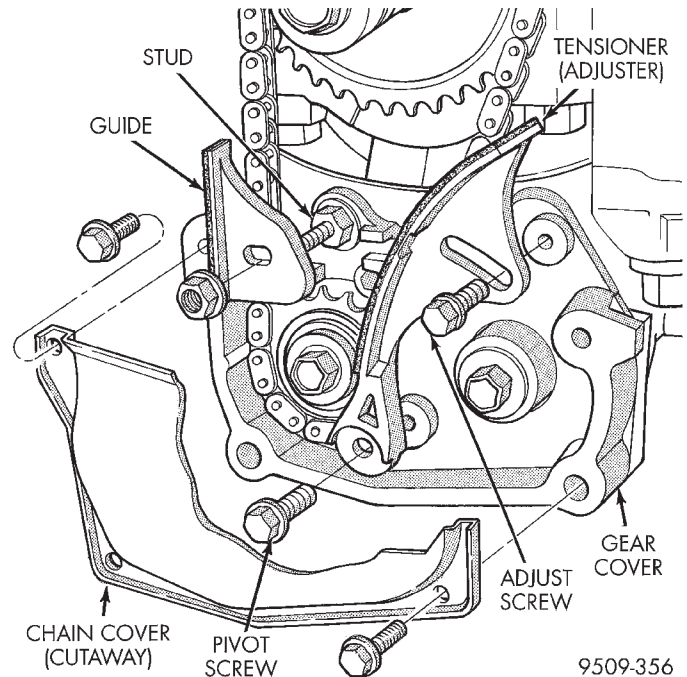

Fig. 34 Chain Cover, Guide and Tensioner
(1) Remove chain cover, guide and tensioner (Fig. 34). Also see Carrier Assembly Removal for service procedures requiring only temporary relocation of assembly.
(2) Remove gear cover retaining stud (double ended to also retain chain guide). Remove cover and balance shaft gears (Fig. 34).